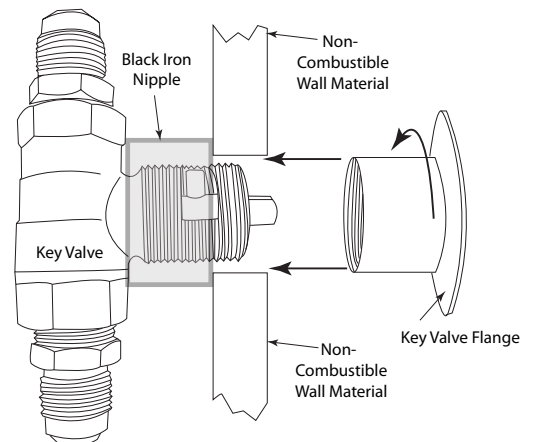

Fig. 5 Typical installation.
3. The primary gas shut-off (not supplied) will require a $\frac{1}{2}$ " male flared fitting to enable connection of the stainless steel flex gas line supplied with the fire pit (see Fig. 5 page 6).
The key valve contents: 1- key valve, 1- key and 1- flange. (See Fig. 4). The valve requires a 1¼" round clearance hole in the non-combustible enclosure wall. See the instructions supplied with the key valve for more specific details. Note: Be sure to leak test all fitting before operation. Fig. 5 shows an example of a typical installation.